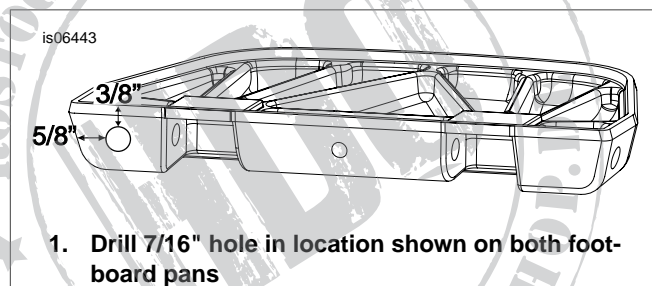
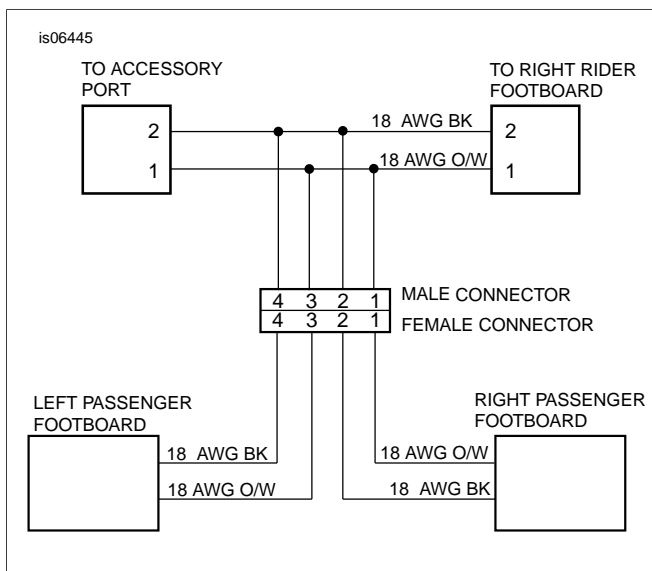

Figure 1. Drill Holes for Wire Harness in Footboard Pans
Figure 2. Passenger Footboard Leads Connected to "Y" Harness
1. See Figure 1. Drill a 7/16 inch hole into the sidewall of both footboard pans as shown in Figure 2. Remove sharp edges and burrs. When installed, the right footboard pan will have the hole in the front and the left footboard pan will have the hole at the rear of the pan.
- Allow sufficient wire length to allow the footboards to pivot freely through their entire range, then use cable straps (6) from the kit to tie the footboard insert harnesses to the back sides of the passenger footboard mounting brackets.
- See Figure 2, Figure 3 and Table 1 to make the wire connections. Apply the contents of the dielectric grease packet (4) to the footboard insert wiring harness and all harness connector terminals.
- Left passenger footboard (2): Install orange/white wire with pin to female connector (5) in the number 3 cavity. Install black wire with pin to number 4 cavity.